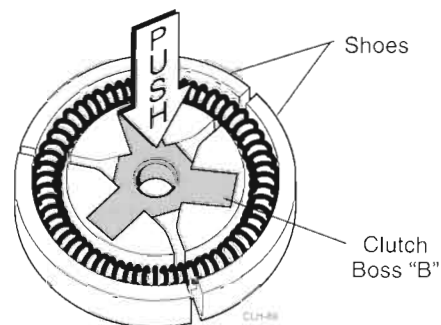

Figure 6.14 Push Boss "B" from the Shoe Assembly
STEP 1. Grasp the clutch shoe assembly firmly with both hands, and then use your thumb to push Boss "B" from the shoe assembly (Figure 6.14).